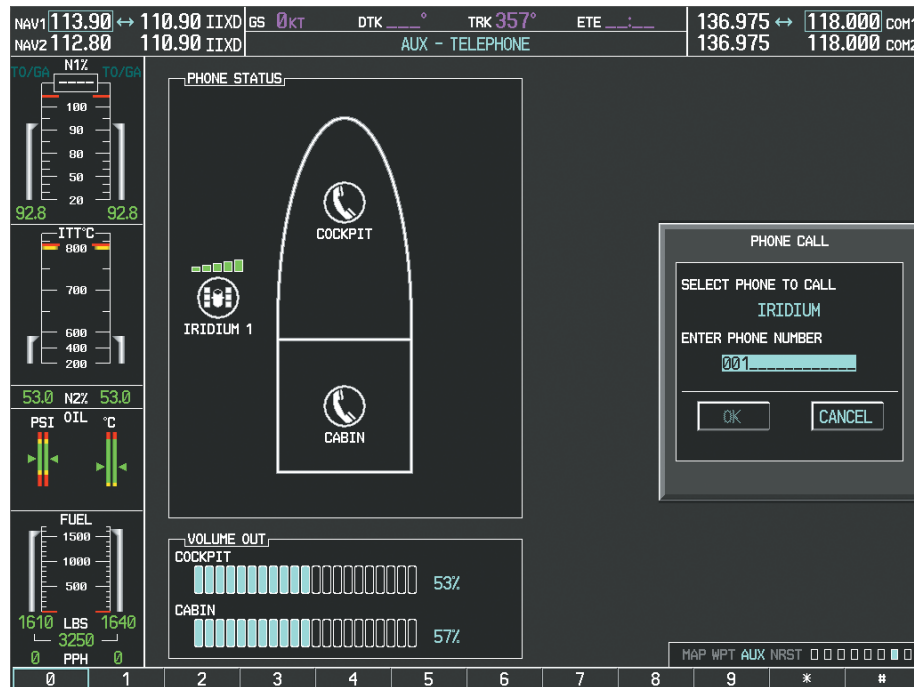

Figure 8-83 Enter Phone Number
- 4) Press the **ENT** Key. The cursor has now moved to the phone number entry field as shown in Figure 8-83.